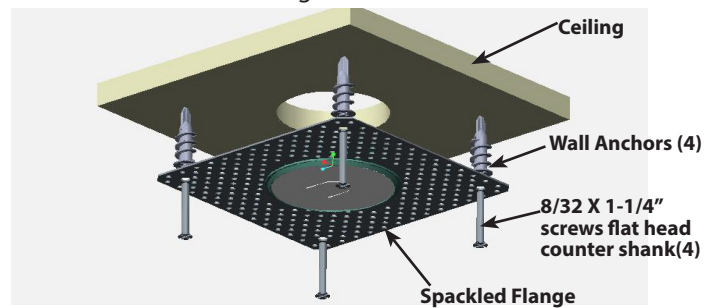

Fig: 4
3. For Remodeler Unit without rough-in frame (Fig4): Use 5/16" drill bit and drill ceiling at 4 marked places. Install **Wall Anchors** and secure **Spackled Flange** with 8-32 X 1-1/4" flat head counter shank sheet metal screws.